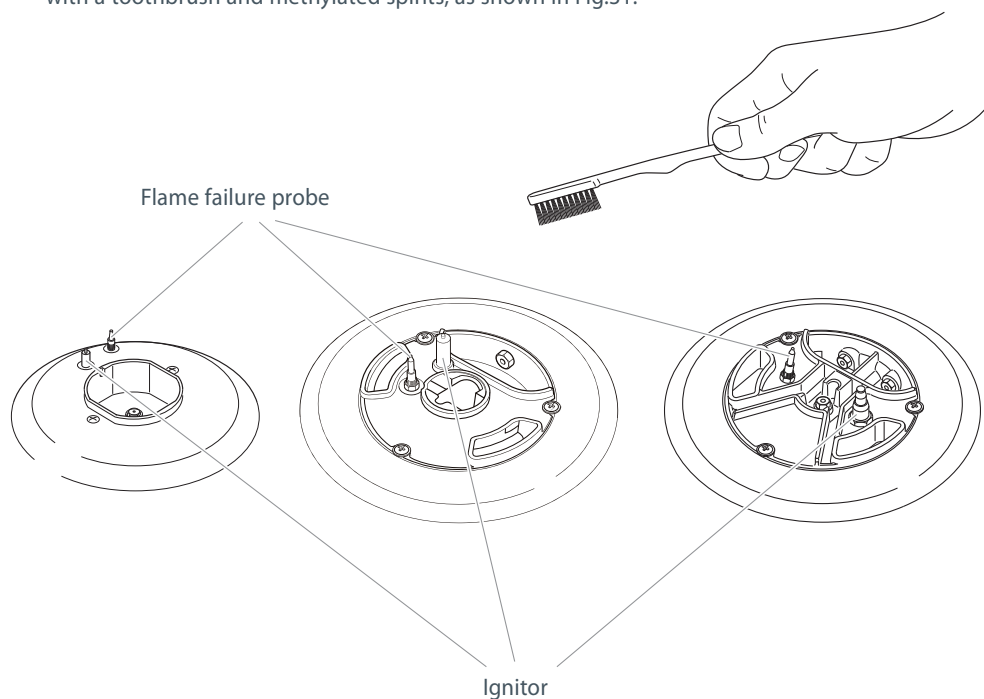

Fig. 29 Cleaning the probe and ignitor
Note: both the ignitor and probe must be very carefully cleaned using a toothbrush and methylated spirits (see Fig.29).
- Note: both the ignitor and probe must be very carefully cleaned using a toothbrush and methylated spirits (see Fig.29).